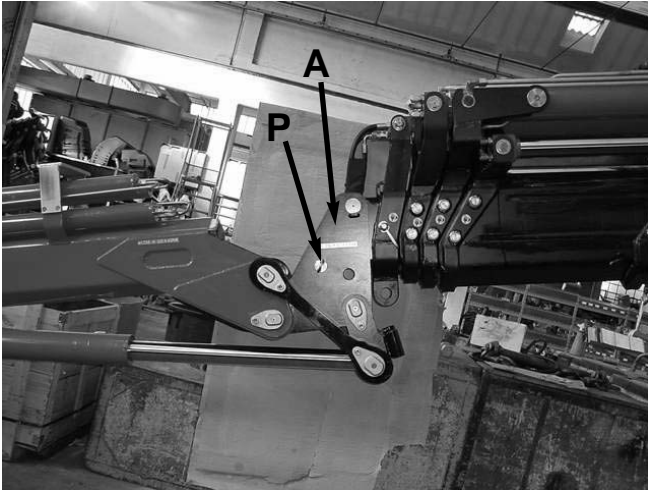

fig. 1
- or in standard configuration (fig. 1);